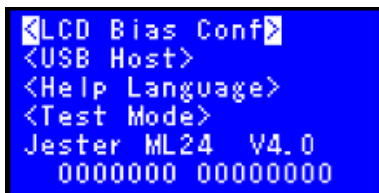

Fig. 2
3. Press the arrow UP key until the "LCD Bias Conf" menu is selected and press ENTER (Fig. 2)